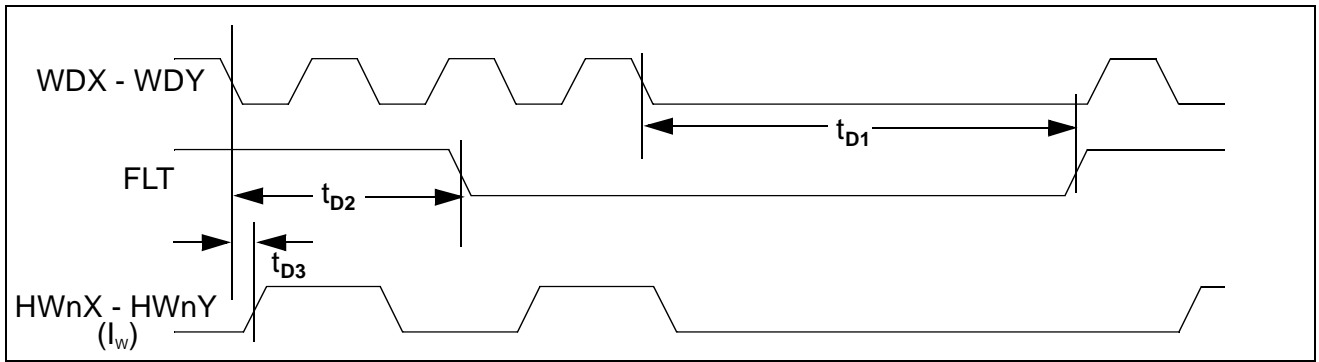

Figure 1 Write Mode Timing Diagram (with flip-flop active)
1. See Figures 1 and 2 for write mode timing diagrams.